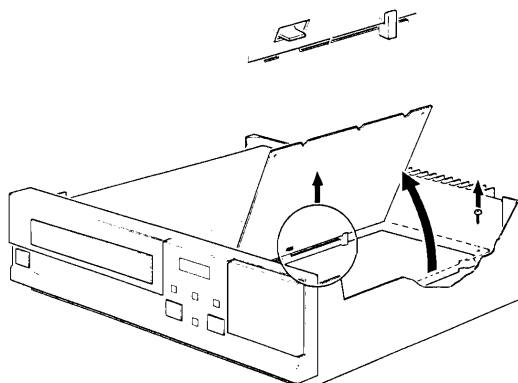

Fig. 4
- When the servo PCB is placed in the service position (see Fig. 4) measurement can be performed on both the servo PCB and the decoder PCB (component side).